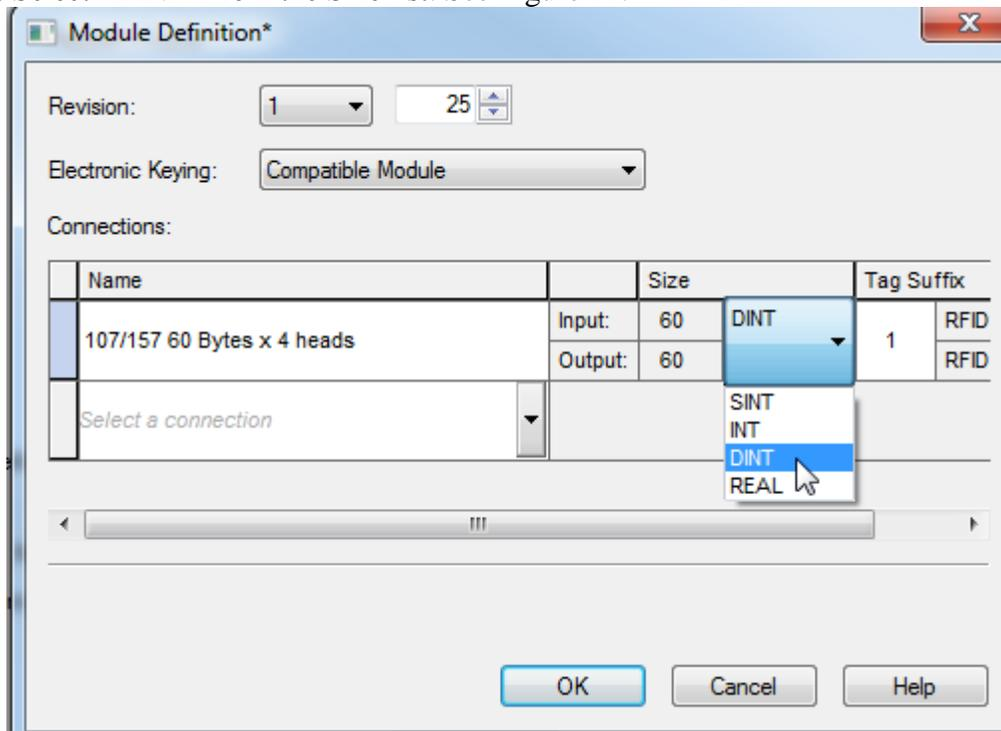

Figure 11: Change the size to DINT
Step 6: Select "DINT" from the Size list. See Figure 11.